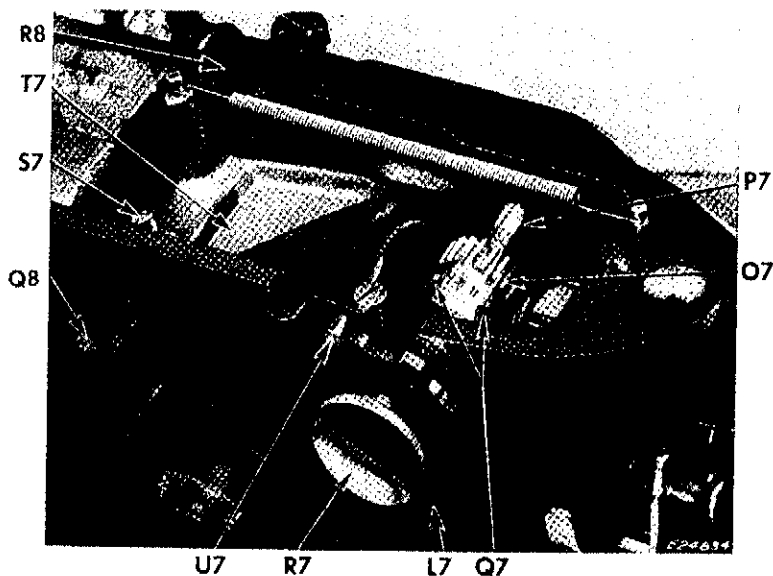

Fig. 73. Adjusting Arm Cross Shaft and FASHION Disc Stud
Turn FASHION disc **L7**, **Fig. 73** counter-clockwise as far as possible and apply pressure toward needle bar on collar **M7**.
To remove end play or binding in cross shaft **P7**, loosen two screws at **Q7**, **Fig. 73**.
To adjust the relationship of the FASHION disc follower frame stud **U7**, **Fig. 73** to the FASHION disc, loosen screw **S7** on collar.
2. Remove spring shown in **Fig. 73**.
7. Move frame **T7**, **Fig. 73** to front or rear of machine until stud **U7** is flush with outside edge of FASHION disc **L7**. Securely tighten screw **S7** when frame **T7** pivots freely on hinge pin **Q8**.
8. Replace spring shown in **Fig. 73**.